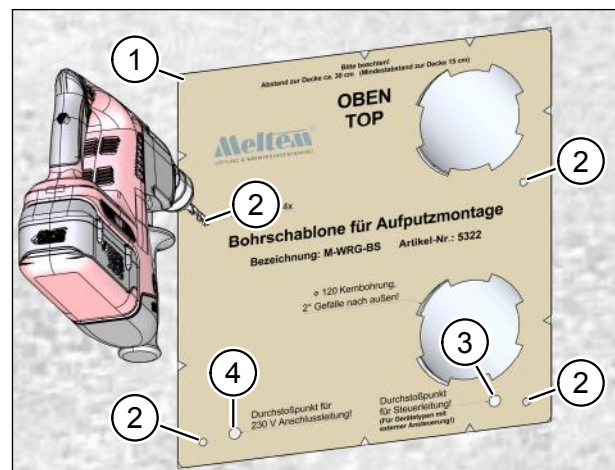

Fig. 12: Holes for dowels and marks for connecting cables
- ▶ Position the drilling template (item 1 in Fig. 12) precisely over the two core drill holes.
- ▶ Mark the four holes (item 2 in Fig. 12) for the dowels for fixing the ventilation unit to the internal wall.
- ▶ Mark the position of the passage for the mains cable (item 4 in Fig. 12) in the ventilation unit on the internal wall. This mark identifies the end of the wall channel that needs to be chased out for the mains cable.
- ▶ Mark the position of the passage for the control cable (if used) (item 3 in Fig. 12) on the internal wall (only for ventilation units with a control cable connection, see Table 4 in section 10.8 on page 22). This mark identifies the end of the wall channel that needs to be chased out for the control cable.